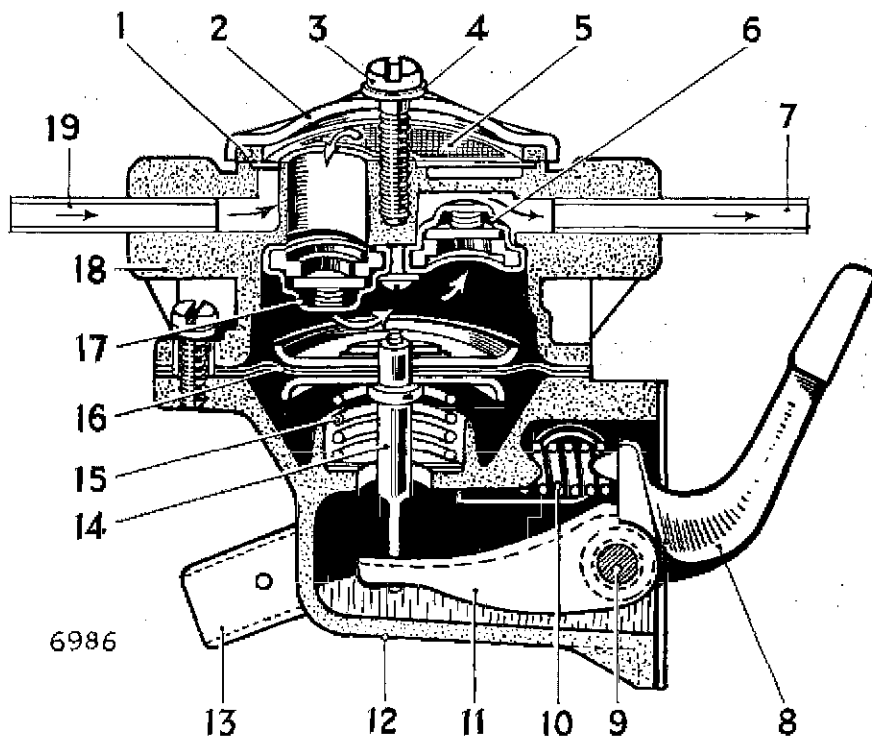

Fig. 1. Sectional view through fuel pump and filter
DESCRIPTION (See Fig. 1)
Place a valve assembly (9) in the inlet port with spring facing outwards. (See Fig. 1.)
Fit the other valve (9) in the outlet port position with spring inside the port. (See Fig. 1.)